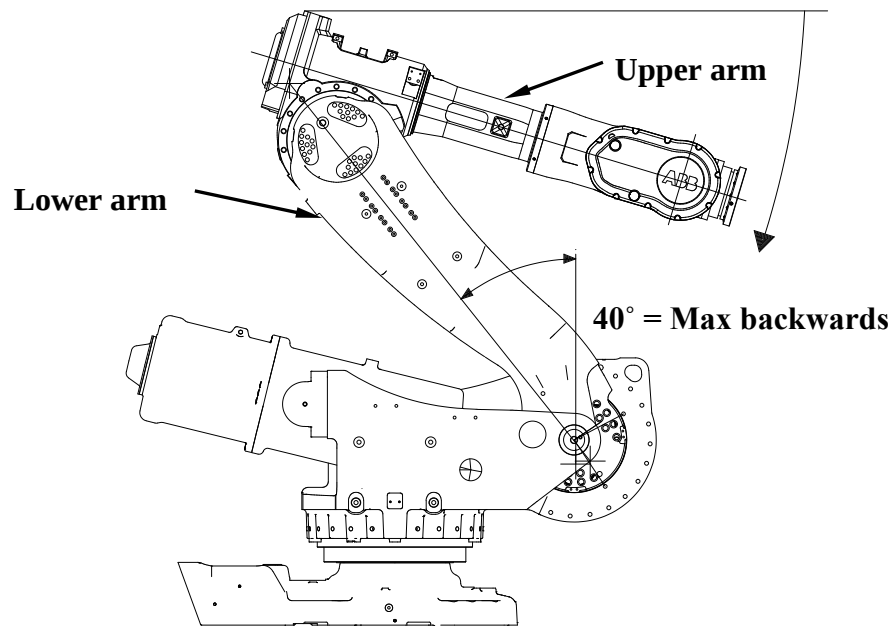

Figure 8. Approved lift position - IRB 6650S
- The upper and lower arms of the robot must be positioned as shown in figure 8. The lower arm must thus be pointing backwards as far as possible and the upper arm must be angled downwards or horizontal.